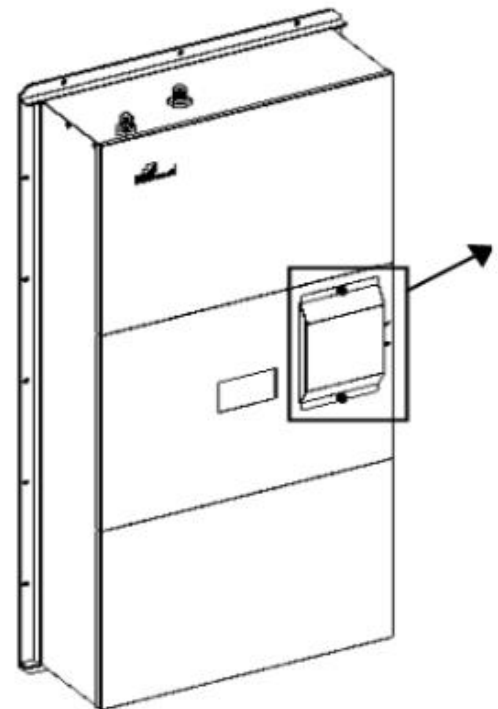

Figure 2.2.2.1 Location of power wire guard of water chiller
2. According to the definition of electric screen printing for water chillers (as shown in Table 2.2.2), connect the power cord in the accessories of water chillers reliably to the INPUT power plug of water chillers, and tighten the fixing screws. The electric screen printing for water chillers is shown in Figure 2.2.2.2.